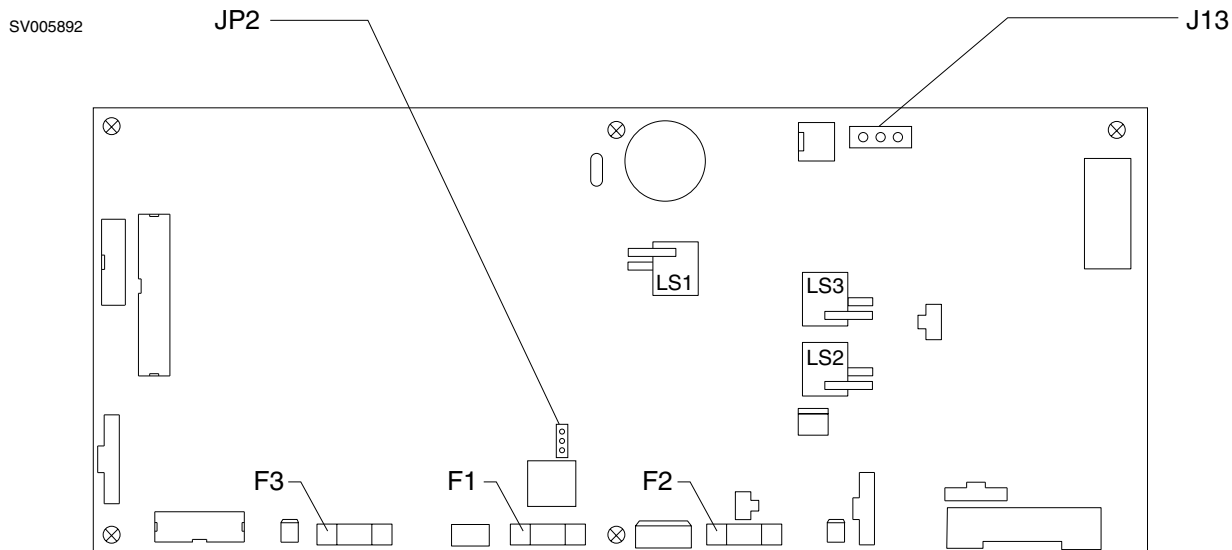
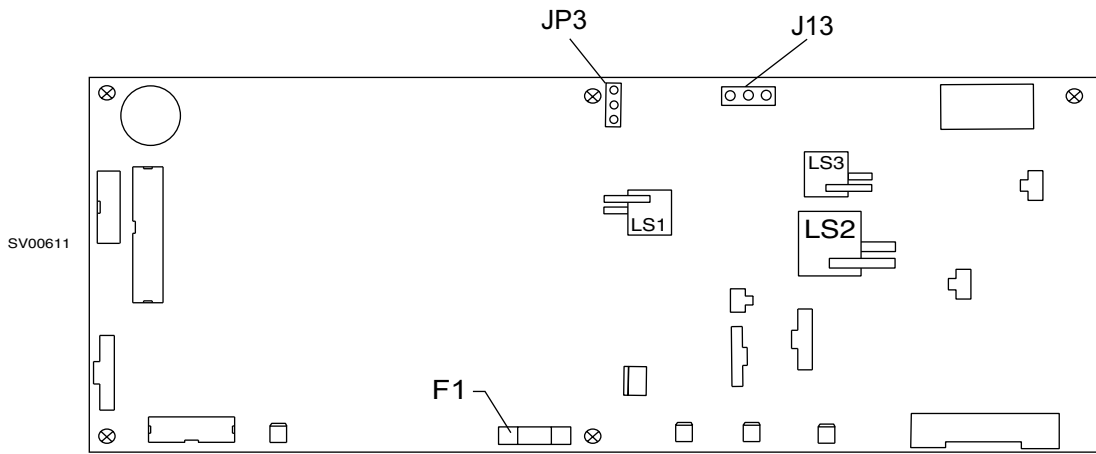

FIGURE 8-5. Boot Strap Jumper and Download Connections on Control PCB P/N 4116632
FIGURE 8-6. Boot Strap Jumper and Download Connections on Control PCB P/N 4118079
Figure 8.5 or Figure 8.6 for proper connector locations.
- 8.5.4 Connect the 3-pin plug end of the boot strap download cable (P/N 4117459) to J13 on the control PCB. See Figure 8.5 or Figure 8.6 for proper connector locations.